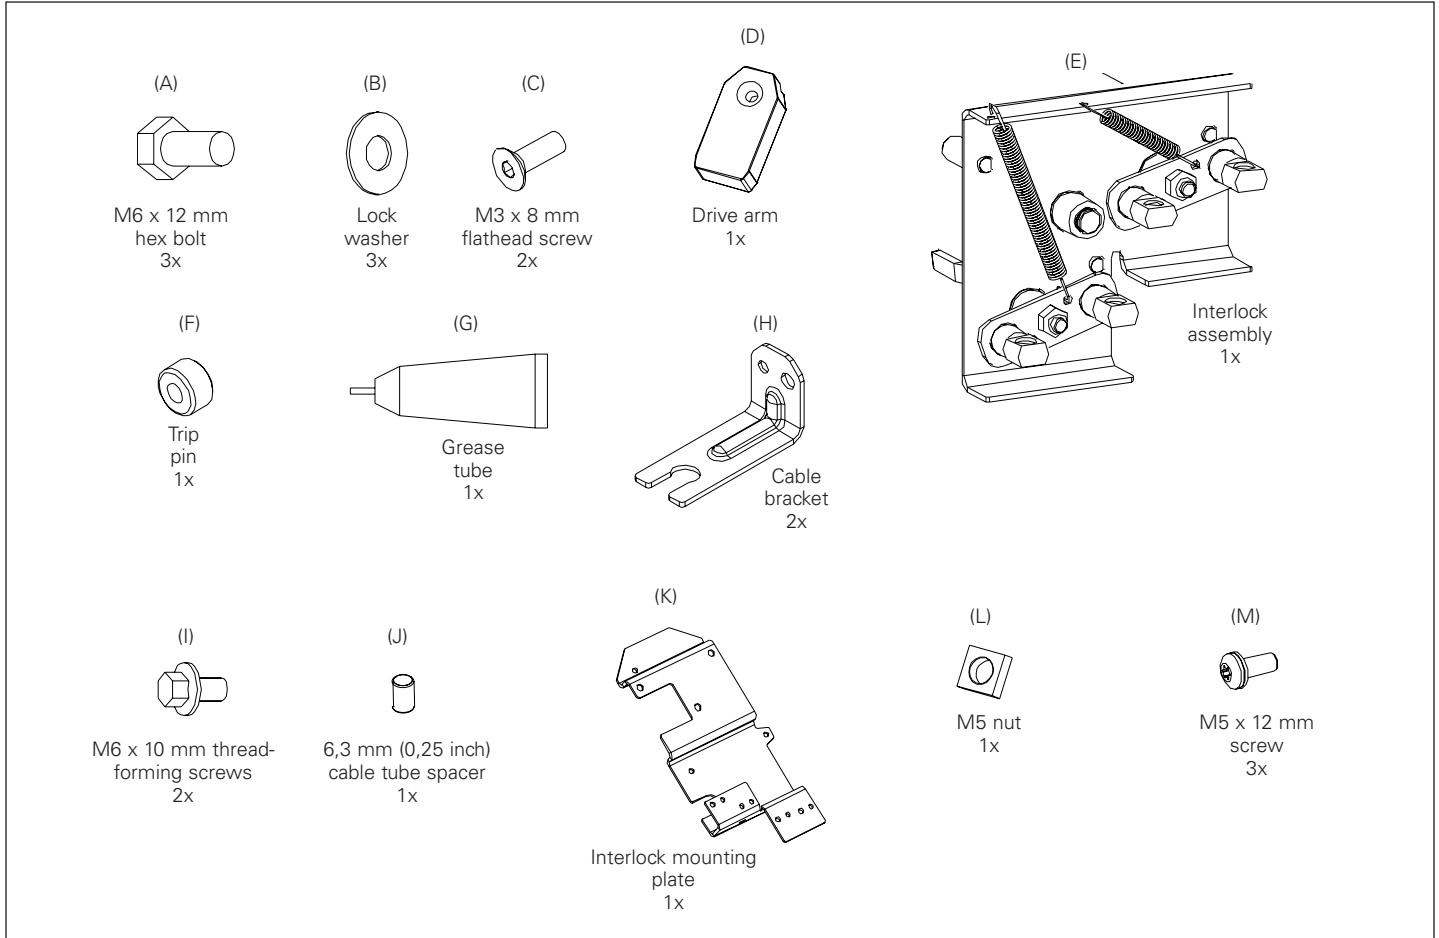
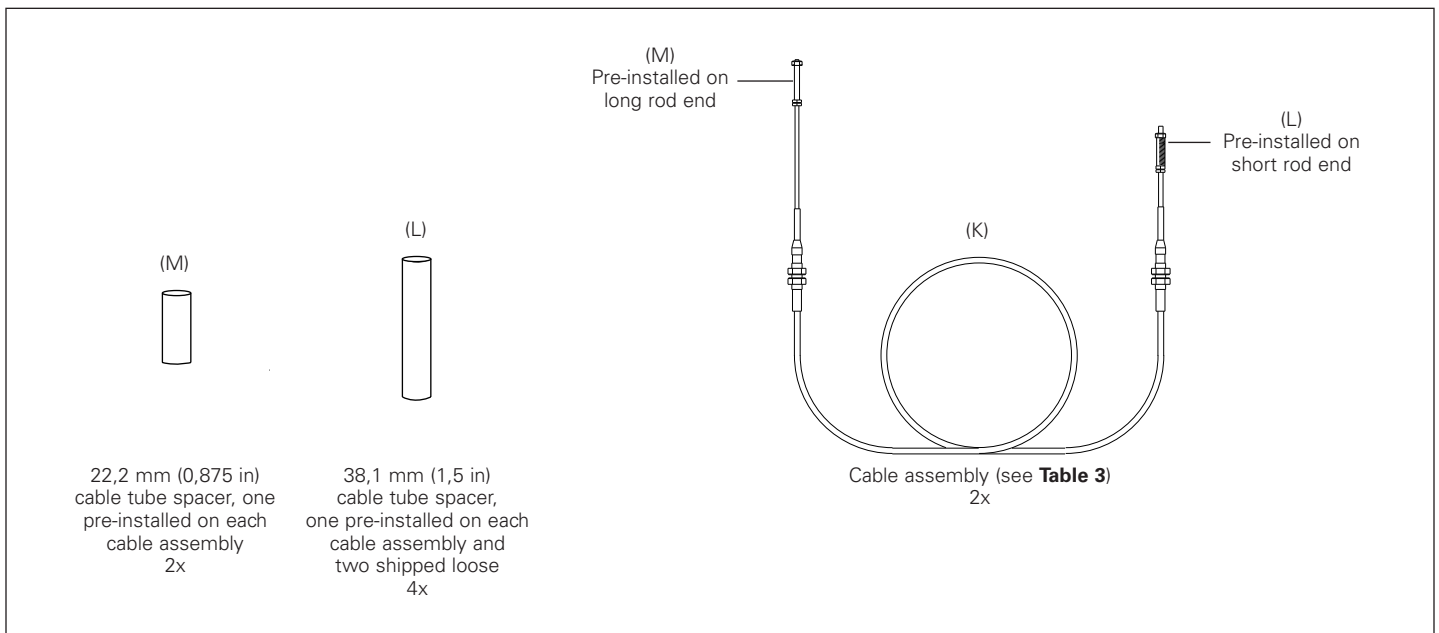

Figure 2. Interlock kit part identification, includes parts to install on a single fixed Type NF frame breaker (does not include cables)
Figure 3. Interconnecting cable kit part identification (includes cables)
Refer to **Figure 2** and **Figure 3** for identification of interlock kit and interconnecting cable kit contents, respectively.
**Note:** Refer to **Figure 2** and **Figure 3** for parts identification.